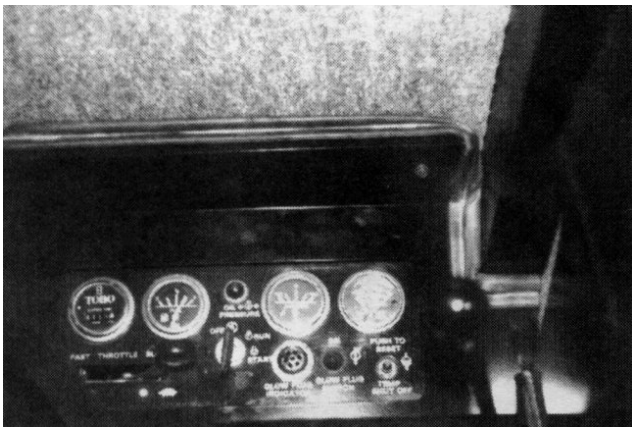

Figure 9
6. Install the new console cover as shown in Figure 9 using the latch installed in step A-5 and a 1/4" self-tapping screw supplied in the mounting kit.